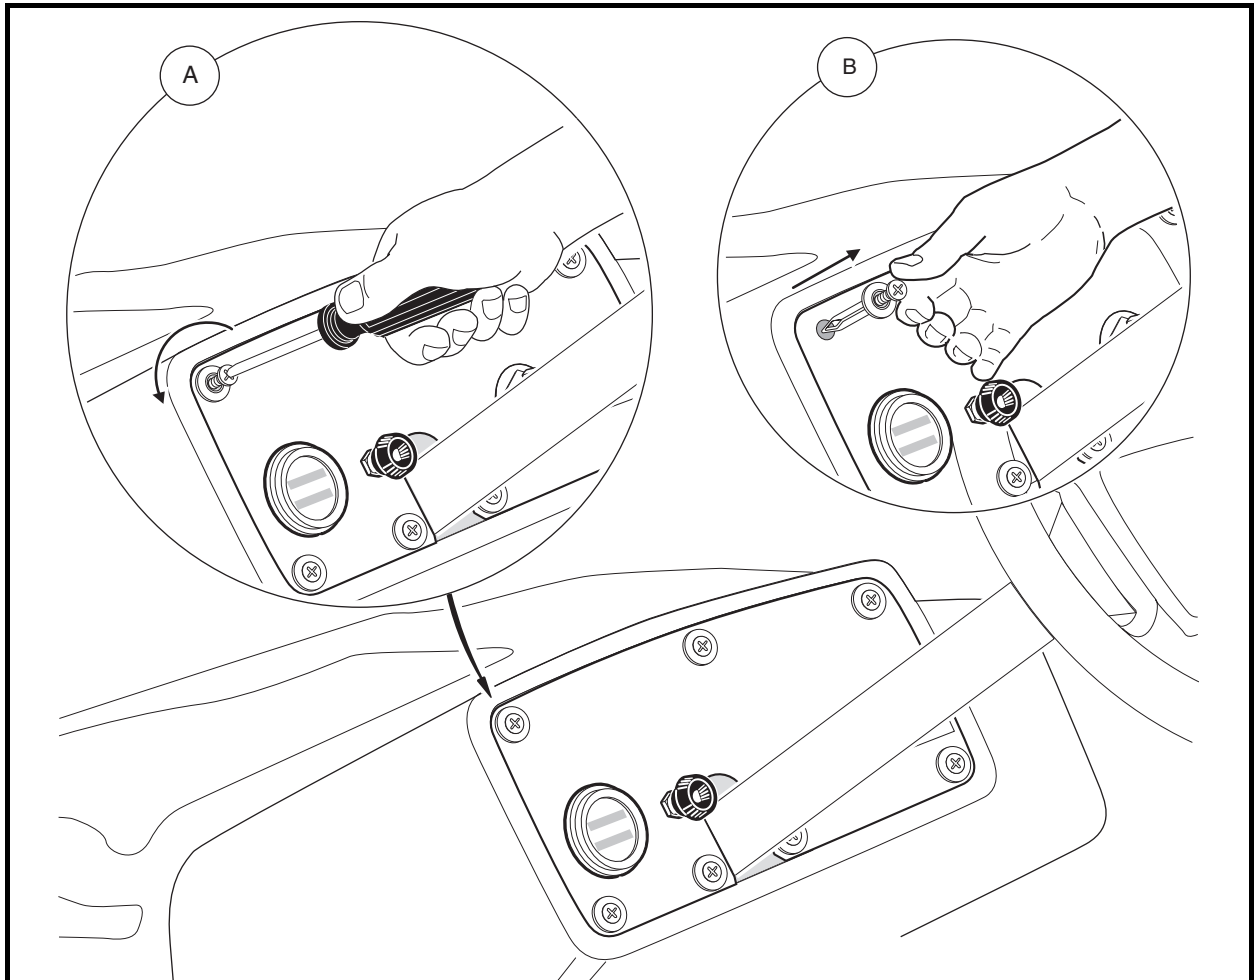

Figure 12-19 Center Dash Panel Removal
- 3.1. Loosen seven Tuflok screws, but do not remove screws completely, as shown in Detail A (**Figure 12-19, Page 12-16**).
2. Install the dash panel in reverse order of removal (**Figure 12-19, Page 12-16**).